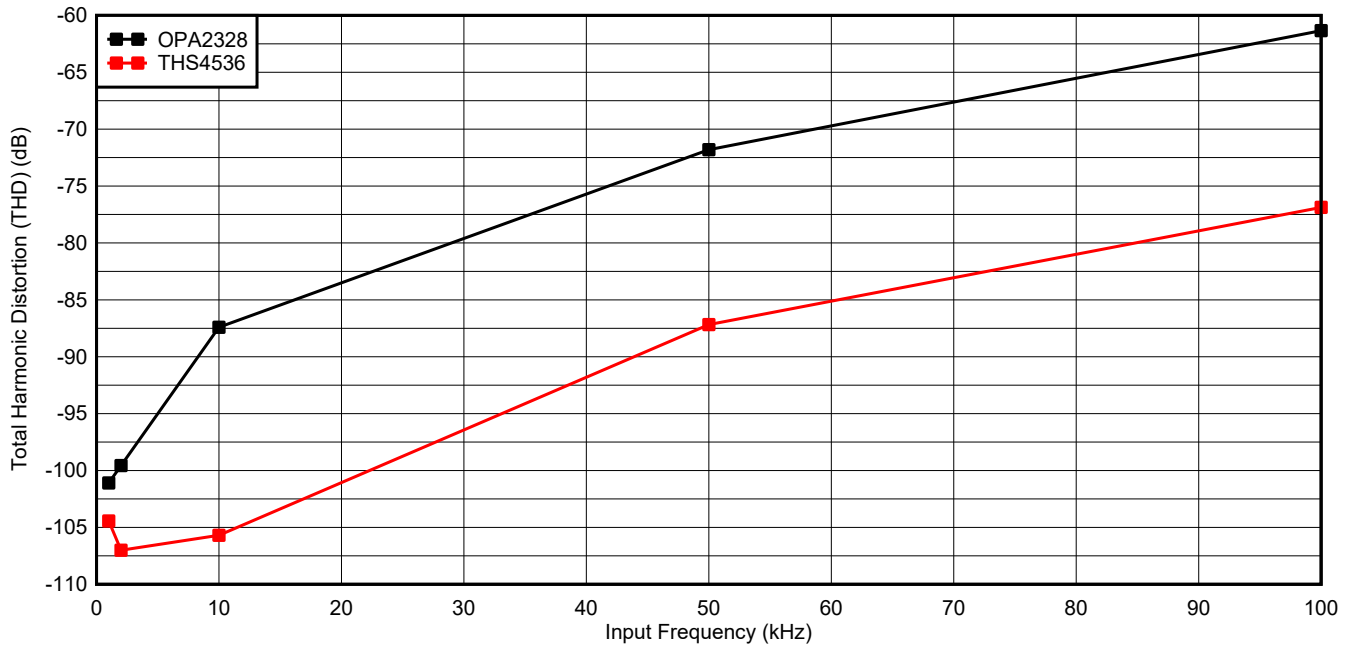

Figure 4. Total Harmonic Distortion vs. Input Frequency (1MSPS)
Total harmonic distortion is defined as the measure of unwanted frequencies (harmonics) that are added into an ideal signal (8). Ideally, the lower the THD, the better. The linearity of an amplifier can be quantified in terms of its THD performance, with a general rule of thumb that an engineer must select an amplifier at least 10 dB better than the ADC in the frequency range of interest. For FDAs, the even-order harmonics are ideally reduced in a differential signal path, resulting in a lower total harmonic distortion (5). Figure 4 demonstrates part of this principle as the total harmonic distortion is lower for the THS4536 compared to OPA2328 when driving multiple different input frequencies for a SAR 16-bit, 1MSPS ADC (ADS9224R).